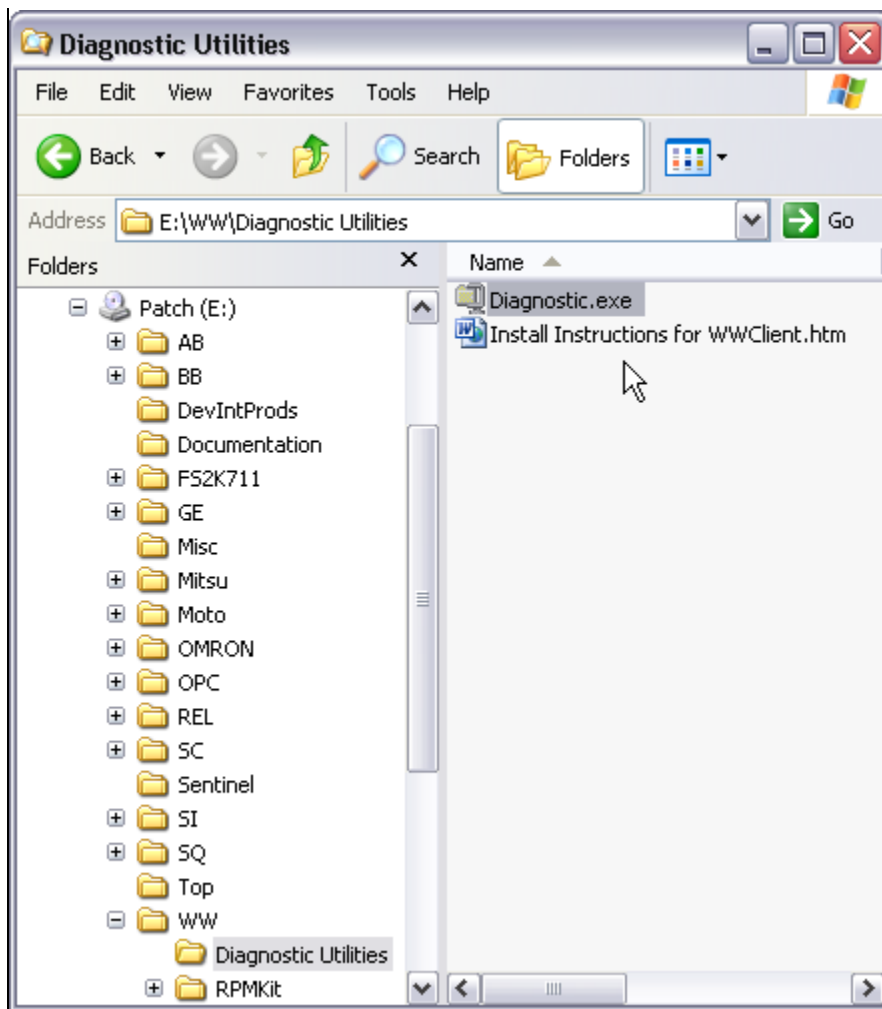

FIGURE 1: WW DEVICE INTEGRATION CD DOWNLOAD LOCATION
- You can also install the utility from Device Integration CD 1 of 2 at **X:\WW\Diagnostic Utilities\Diagnostic.exe**. X is the drive letter of your OCD/DVD-ROM (Figure 1 below).